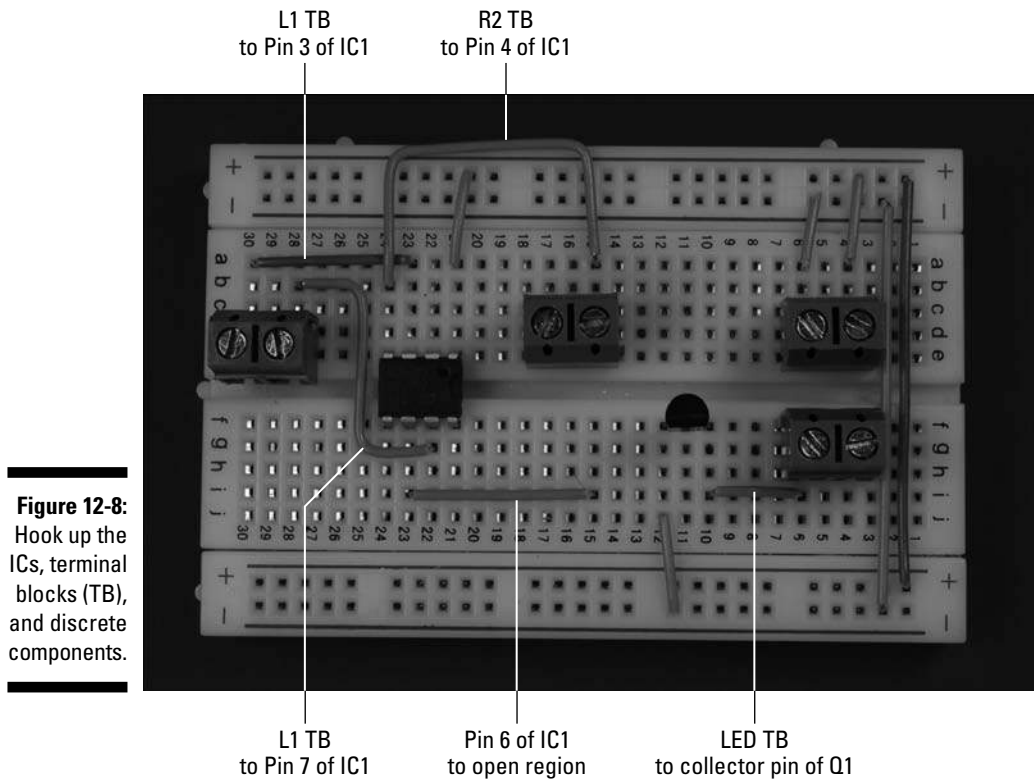

Figure 12-8: Hook up the ICs, terminal blocks (TB), and discrete components.
4. Insert wires to connect the IC and discrete components, terminal block for the coil (L1), terminal block for the potentiometer (R2), and terminal block for the LED, as shown in Figure 12-8.